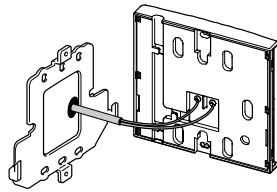
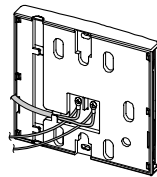

Fig. 3
Fig. 4
- Connect the controller cable to the kitchen water controller as shown in Fig 3. At this point cables from other controllers (if fitted) may also be connected to the kitchen water terminals (Fig. 4) eliminating the need for multiple cable runs directly to the water heater. Water controllers are not polarity sensitive. Feed excess cable lengths into the wall cavity to avoid the pinching of cables between the wall and the water controllers.